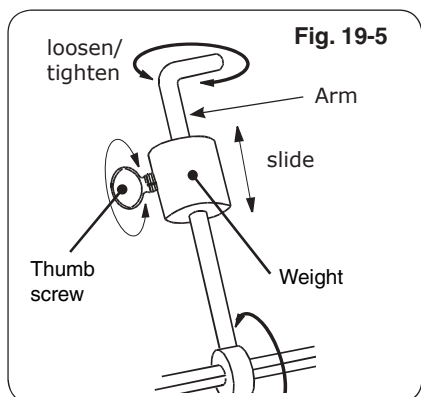
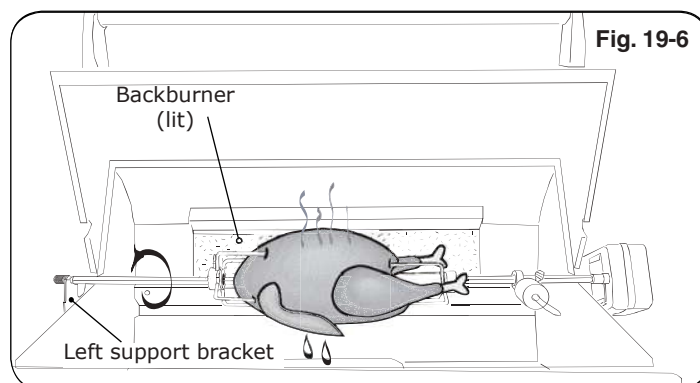

Fig. 19-5
Fig. 19-6
9. Slide the counterbalance weight up or down the arm until the rod rotates most evenly then tighten thumb screw (Fig. 19-5 and Fig. 19-6).